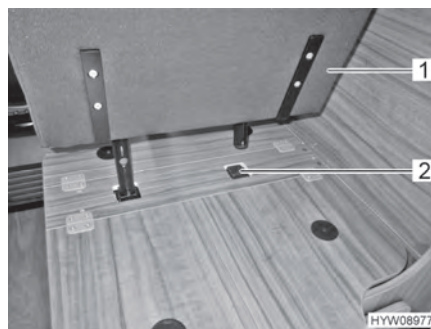

Fig. 17 Place the attachable seat in the holder
- Place the attachable seat (Fig. 17,1) in the holder (Fig. 17,2).